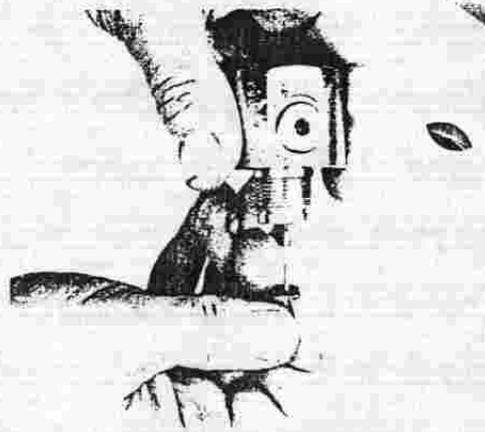

FIGURE 7
12. While holding the small end of the new high-pressure seat (Item 16) in one hand, insert the end of the pin (Item 17) into the center of the seat. Then carefully insert this subassembly up into the center hole of the first-stage body. (See Figure 7.) Gently "wiggle" this subassembly, if necessary, during this procedure to ensure that the end of the pin is completely seated in the pin support (Item 6).